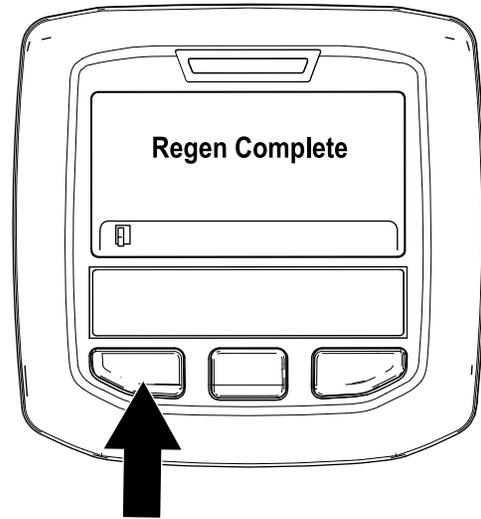

Figure 46
9. The parked regeneration is complete when the “Regen Complete” message displays in the InfoCenter. Press the left button to exit to the home screen (Figure 46).